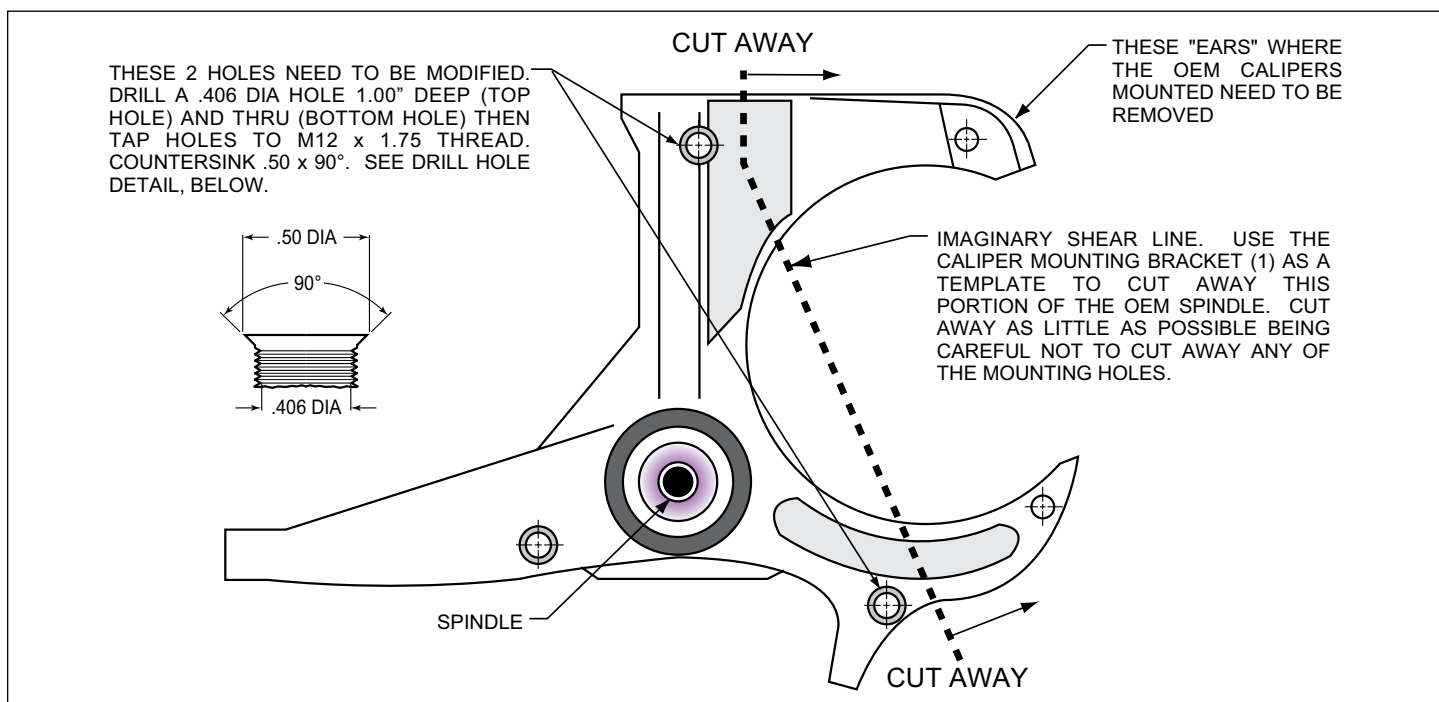

Figure 1. Steering Arm / Spindle Modifications
NOTE: These modifications should be performed by a qualified machinist and completed before assembly of the Wilwood disc brake kit begins. Refer to Figure 1 as necessary (numbers in parenthesis refer to the parts list). Only one view of the steering arm/spindle is shown, but the modifications need to be performed on both steering arm/spindles.
The two OEM holes that will be used to mount the caliper mounting bracket (1) need to be modified. Drill a .406 diameter hole, 1.00" deep (top hole), and thru (bottom hole), Figure 1, then tap holes to M12 x 1.75 thread. Countersink the holes to .50 x 90°. The "ears" that protrude to form a "C" shape need to be removed to facilitate the installation of the Wilwood kit. Using the bracket as a template, mark two cut marks on the steering arm. Remove as little as necessary from the "C" shape, being careful not to cut away any of the mounting holes required to bolt on the bracket.